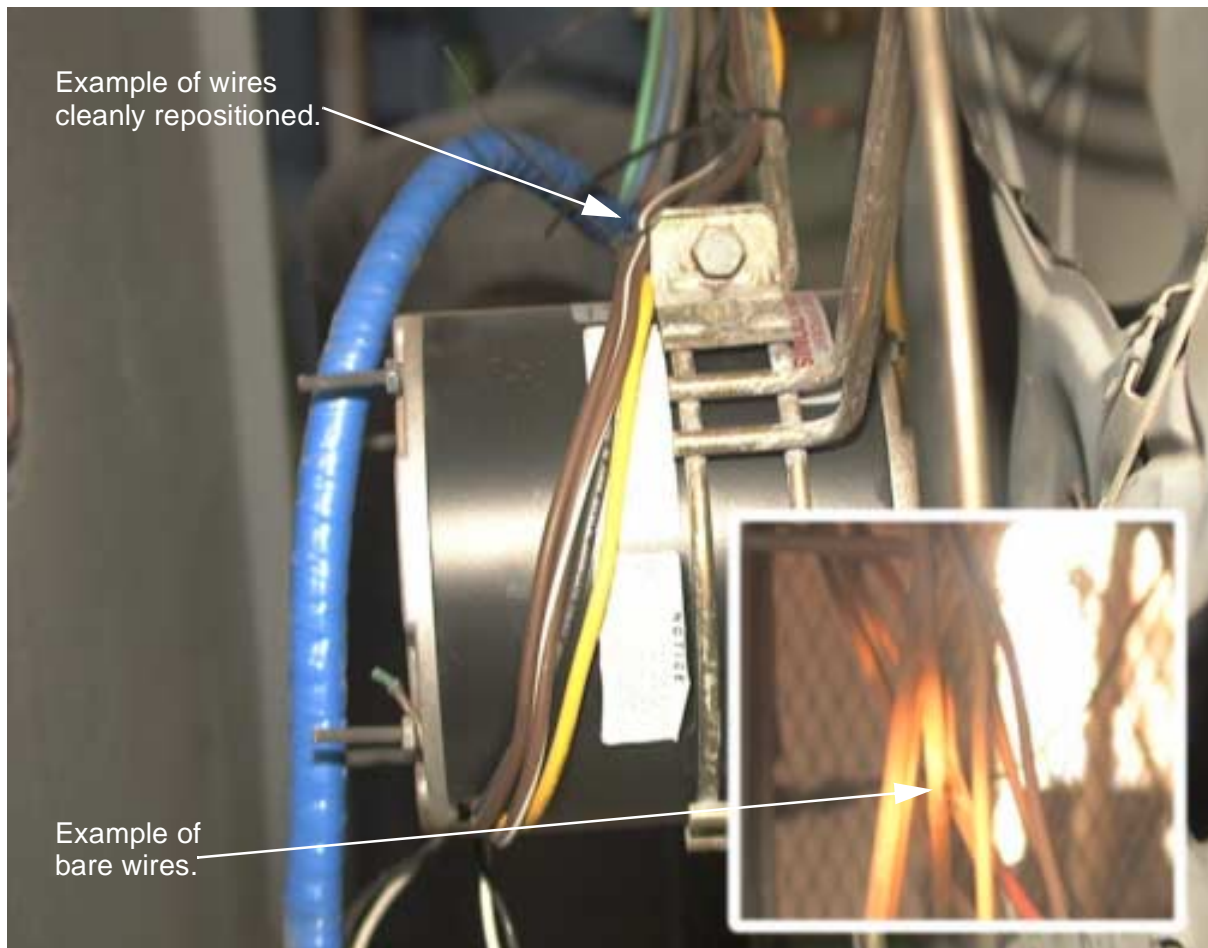

Figure 2. Example of Bard Air Conditioning Unit Wire Repositioning
- e. Permanently secure any loose or dangling wires, using tie wraps, to a fixed position. (See Figure 2).